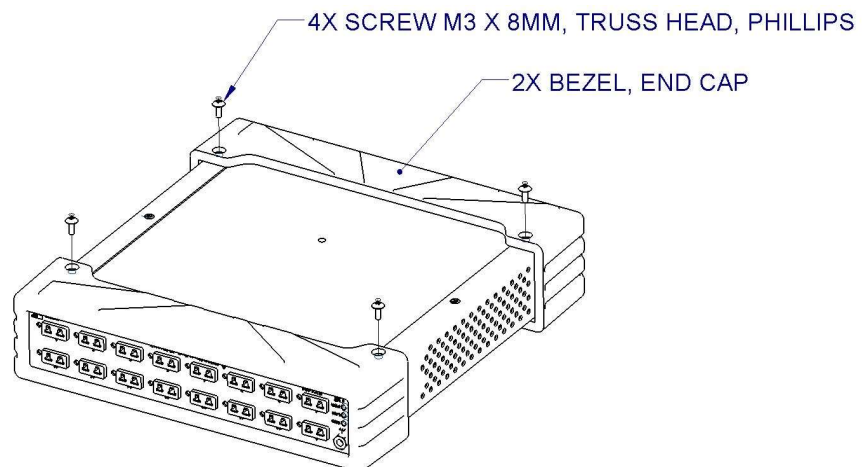

FIGURE 2-2: TABLE TOP FEET INSTALLATION DIAGRAM
- 2) Using Figure 2-2, locate the installation locations (on the bottom of the chassis) for each rubber cap bezel.
- 3) Using the #2 Phillips screw driver, install the four rubber feet using four (4) 6-32 x 3/8" pan head Phillips screws to secure the bottom.